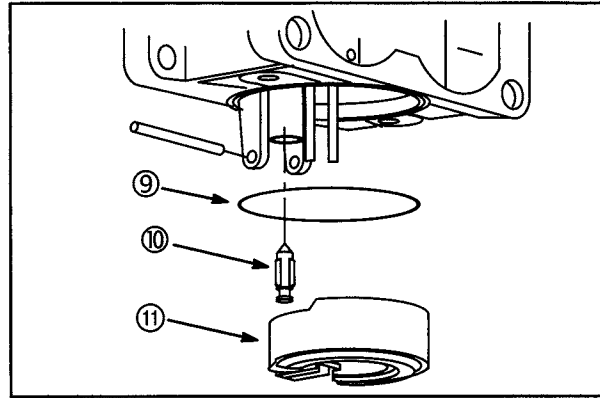

Fig. 128
7. Assemble inlet needle (10) to float (11) and install float, Fig. 128.